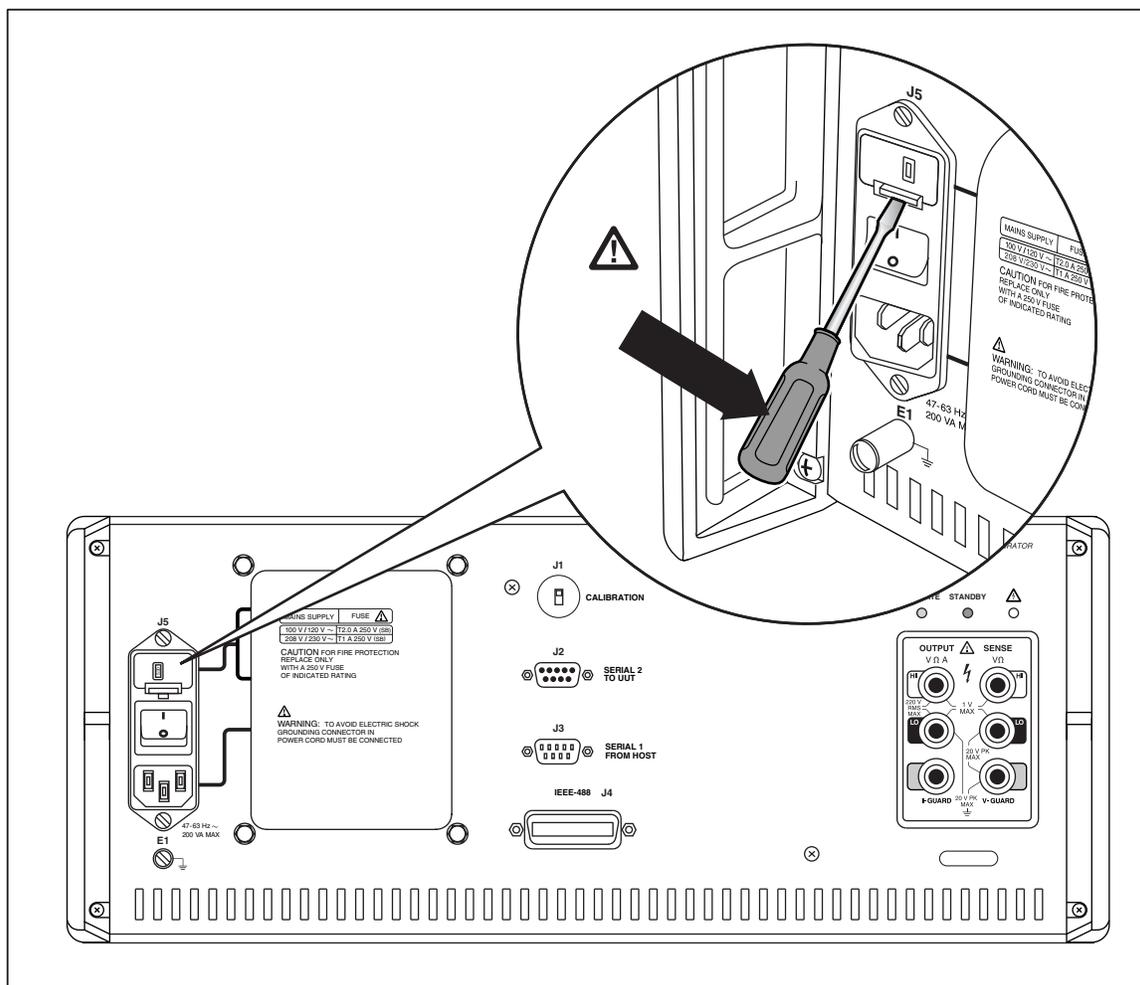

Figure 2-2. Accessing the Fuse
2. Insert a small screwdriver in the fuse holder release slot and push upward until the fuse compartment pops free. See Figure 2-2.